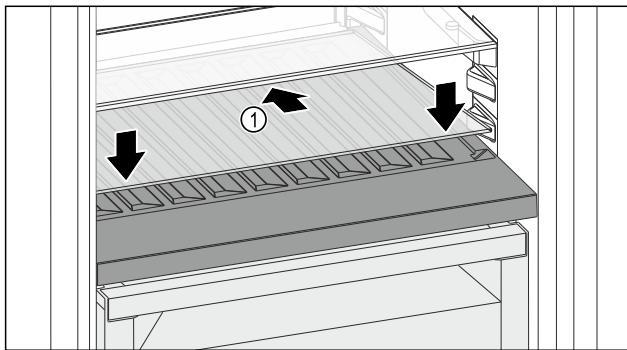

Fig. 144
- ▶ Place the glass shelf Fig. 144 (1) at an angle, sloping it downwards and backwards.
- ▶ Lower the glass shelf Fig. 144 (1) at the front.